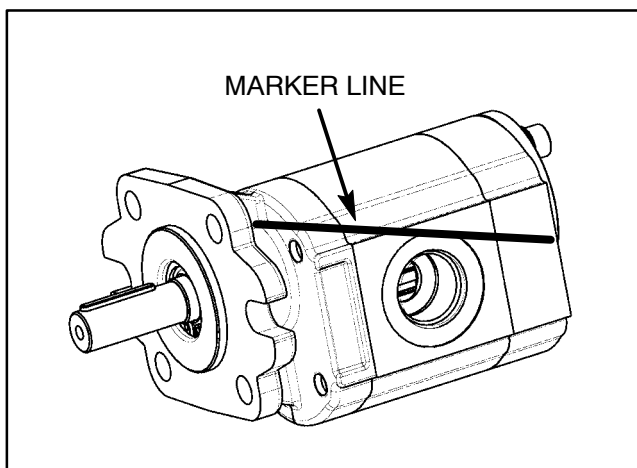

Figure 23.2
2. Use a marker to make a **diagonal** line across the front thrust plate, body and rear flange for assembly purposes (Fig. 23.2).
NOTE: When assembling the pump, check the marker line on each part to make sure the pump components are properly aligned during assembly (Fig. 23.2).